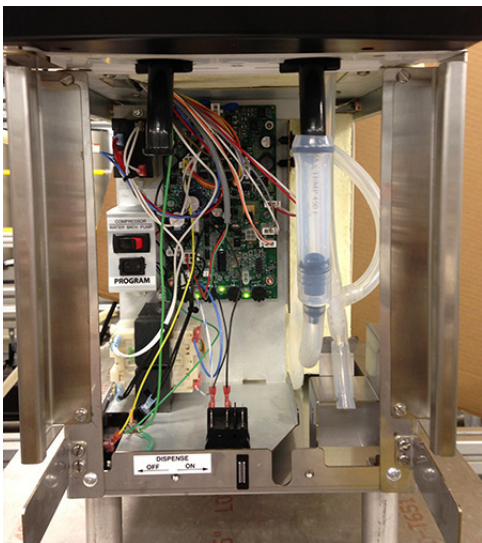

FIG 5 Initial Fill Connection - JDF-2S
3. Pull the fill tube from the dispenser, remove the plug and connect it to the dispense nozzle (Fig. 5 & 6).